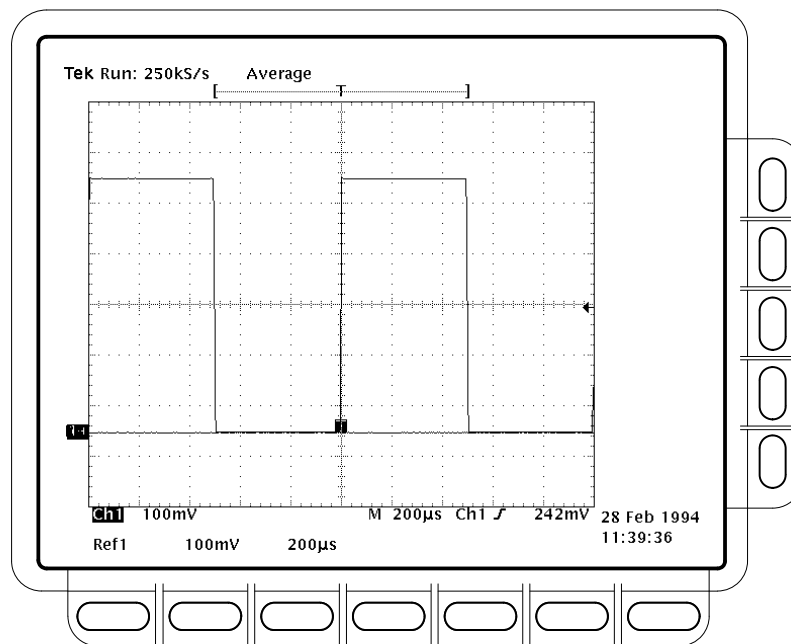

Figure 4–24: Measurement of Probe Compensator Amplitude
- f. Press **CLEAR MENU** to remove the menus from the display. See Figure 4–24.